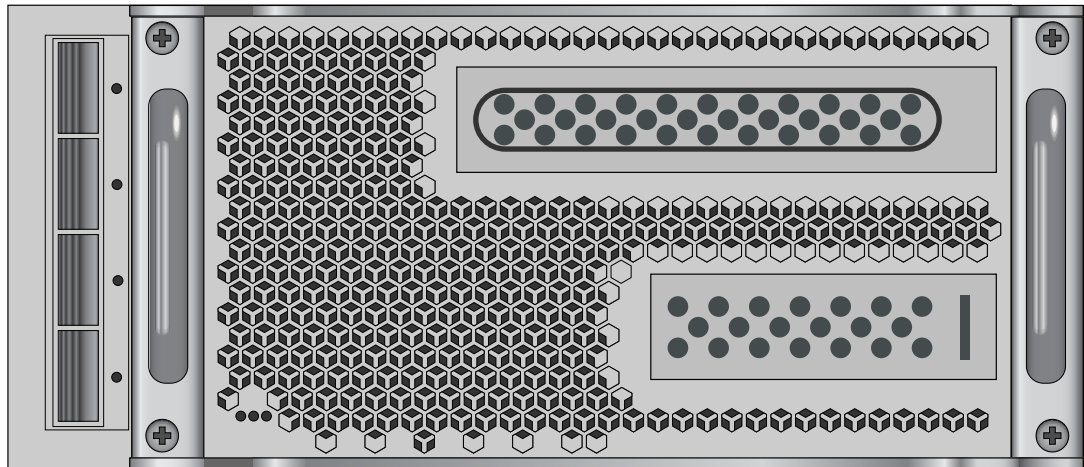

Figure 1-7 PCIe Option Blade Example with Full-Height and Low-Profile Slots
- The optional full -height two-slot internal PCIe blade is a dual-node compute blade that supports one full-height x16 PCIe Gen3 card in the top slot and one low-profile x16 PCIe Gen3 card in the lower slot. See Figure 1-7 on page 24 for an example.